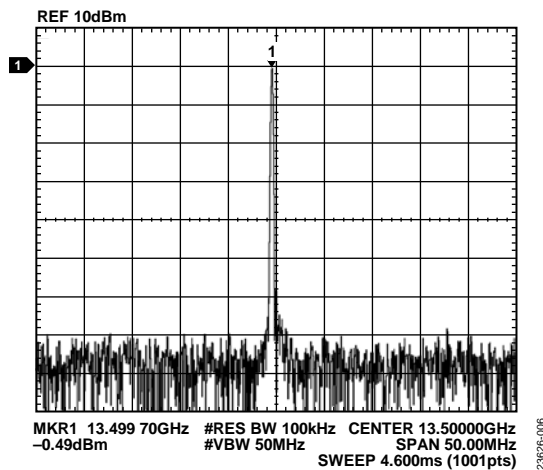

Figure 4. EV1HMC8362LP6G, VCO Band 1,  $V_{TUNE} = 8.45$  V, 13.5 GHz, Includes Insertion Loss of RF Cable
2. If the EV1HMC8362LP6G is configured correctly, a signal at approximately 13.5 GHz with approximately 0 dBm to 2 dBm of output power appears on a spectrum analyzer or signal source analyzer. Refer to Figure 4.